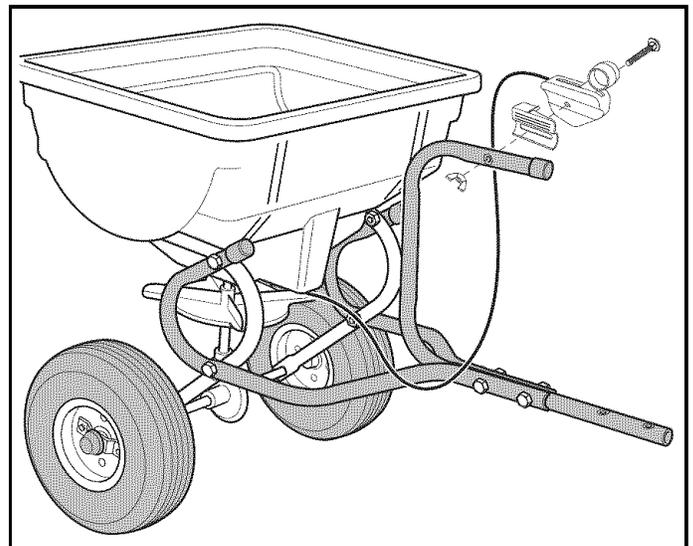

FIGURE 8
- Assemble the Control Cable to the Hitch Control Tube using the carriage bolt and nylon wing nut. **Tighten.** See figure 8.